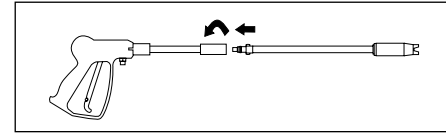

Figure 4 - Gun/Lance Connection
1. Insert lance into the gun and turn clockwise to positive stop as shown in Figure 4.